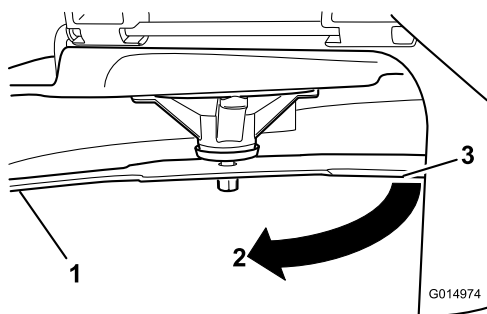

Figure 49
3. Measured distance between blade and the surface (A)
4. Rotate the same blade 180 degrees, so that the opposing cutting edge is now in the same position (Figure 49).